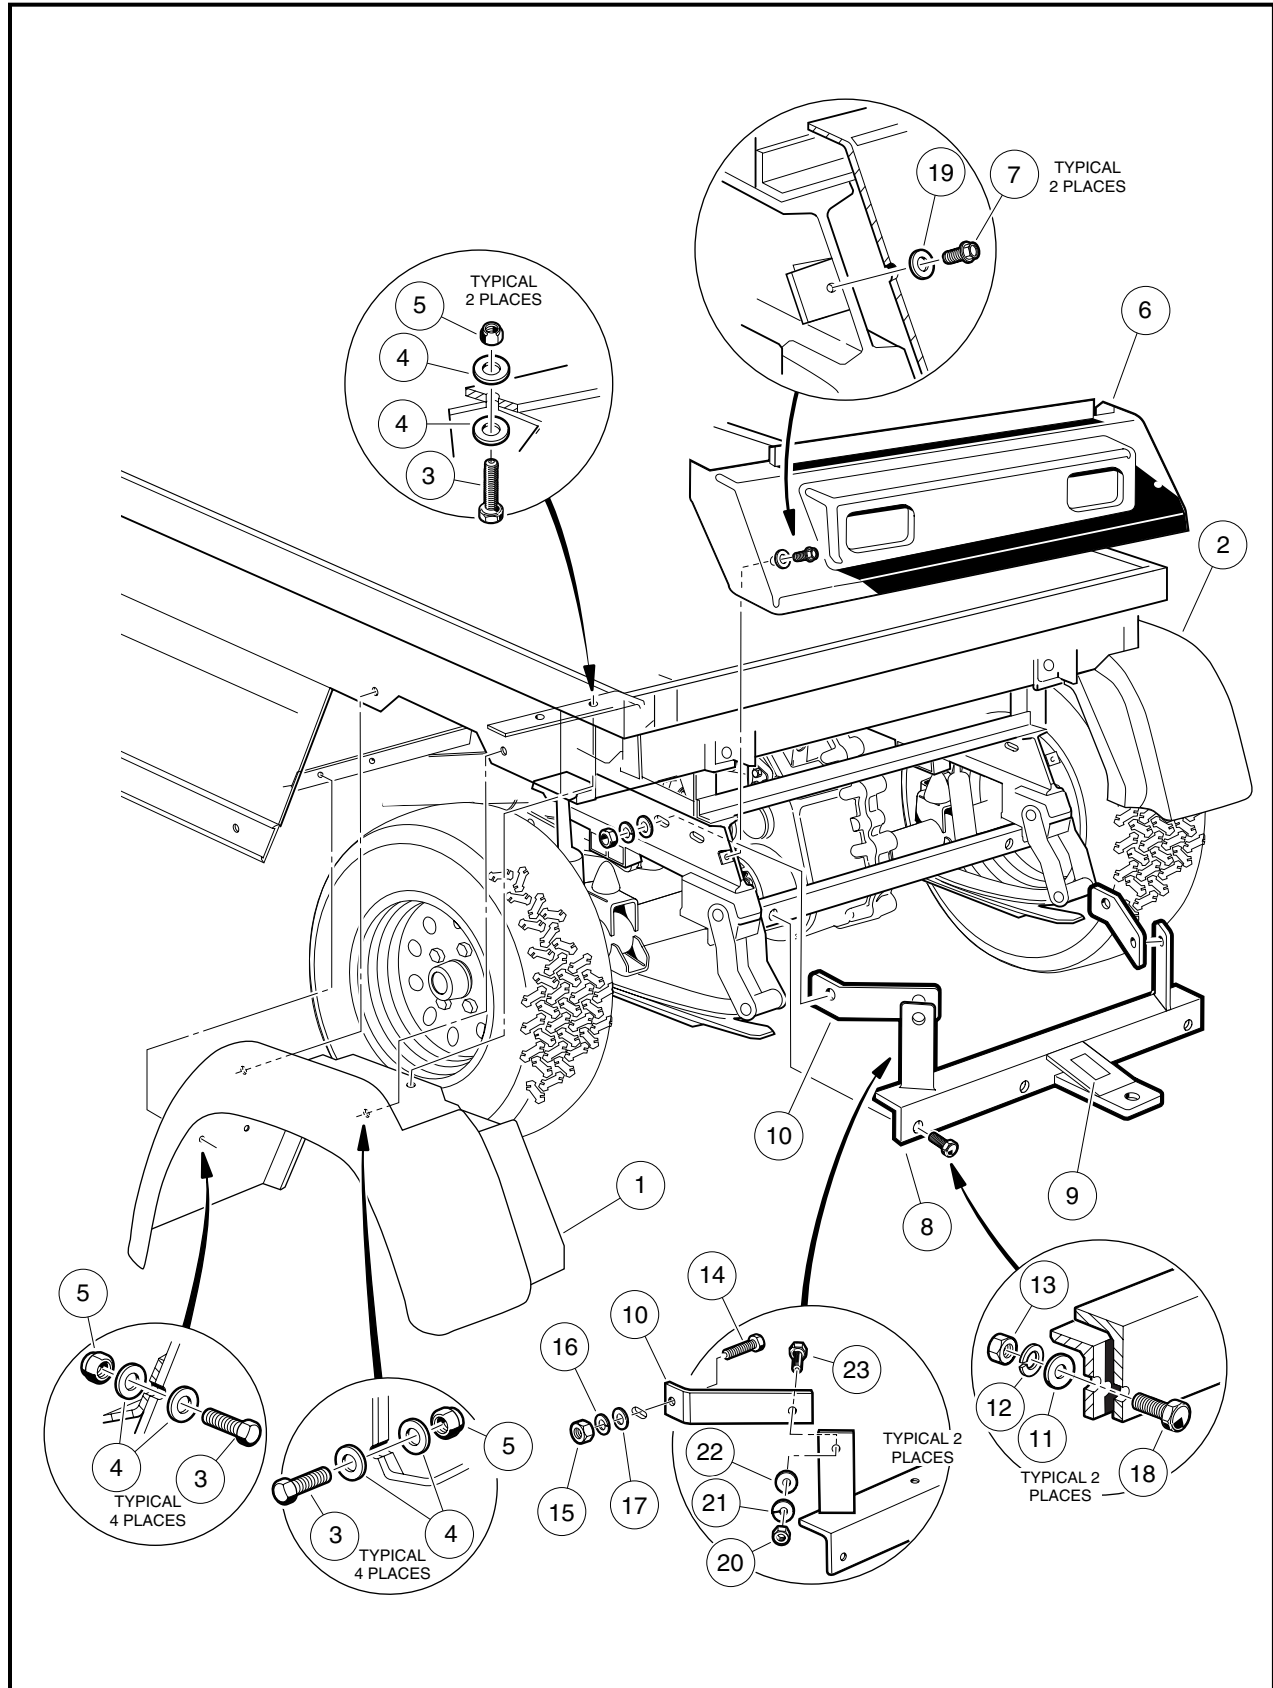

Figure 4-7 Turf/Carryall 272 Rear Fender, Tailskirt, and Trailer Hitch
1. Remove one 1/4-20 nylon lock nut (5), fender washers (4) and 1/4-20 x 1-inch hex-head bolt (3) from the top, and underneath, of fender (1) (**Figure 4-7, Page 4-14**).
2. Remove the two 1/4-20 nylon lock nuts (5), fender washers (4) and 1/4-20 x 1-inch hex-head bolts (3) from the front surface of the fender (1).
3. Remove the two 1/4-20 nylon lock nuts (5), fender washers (4) and 1/4-20 x 1-inch hex-head bolts (3) attaching the fender wall (1) to the vehicle frame.
4. Remove fender (1) from the vehicle.
1. Reverse the rear fender removal process. Tighten bolts to 35 in-lb (4.0 N·m) (**Figure 4-7, Page 4-14**). See following NOTE.
1. Remove the two thread-forming screws (7) and flat washers (8) from the tailskirt (6) and slide tailskirt from under the back edge of the rear of the body and vehicle frame (**Figure 4-7, Page 4-14**).
- 1.2. Remove two 5/16-18 hex nuts (20), lock washers (21), flat washers (22) and 5/16-18 x 1-inch bolts (23) from hitch brace (10) and hitch frame (8) (**Figure 4-7, Page 4-14**).
- 1.1. Reverse the trailer hitch removal process and tighten bolts to 15 ft-lb (20.3 N·m) (**Figure 4-7, Page 4-14**).